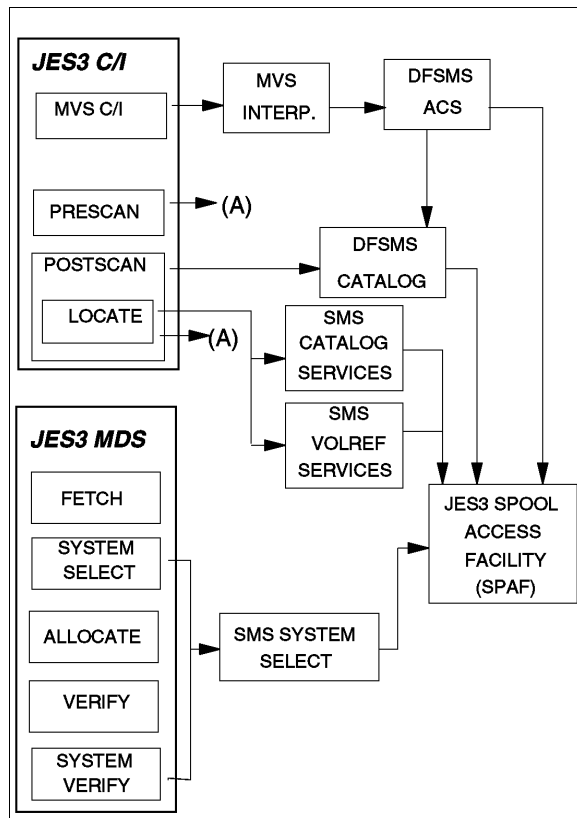

Figure C-11 JES3 CI and MDS processing phases
- ▶ Two calls, one from the prescan phase and the other call from the locate processing phase, are made to the new DFSMS support module, as shown in Figure C-11.
Figure C-11 shows the JES3 processing phases for CI and MDS. The processing phases include the support for system-managed direct access storage device (DASD) data sets.